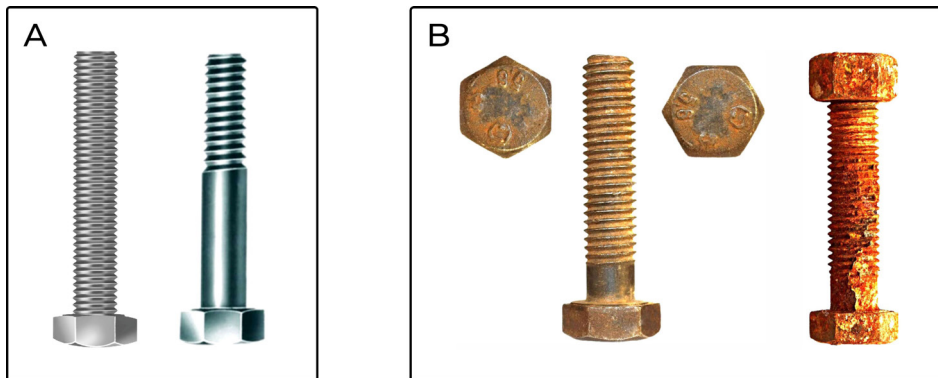

fig. 51
Figure 51 shows a new screw (A) and an oxidation screw (B) after applying chemical products with acid active principles (pH under 7), rinsing those chemicals and leaving the screws exposed to the weather: